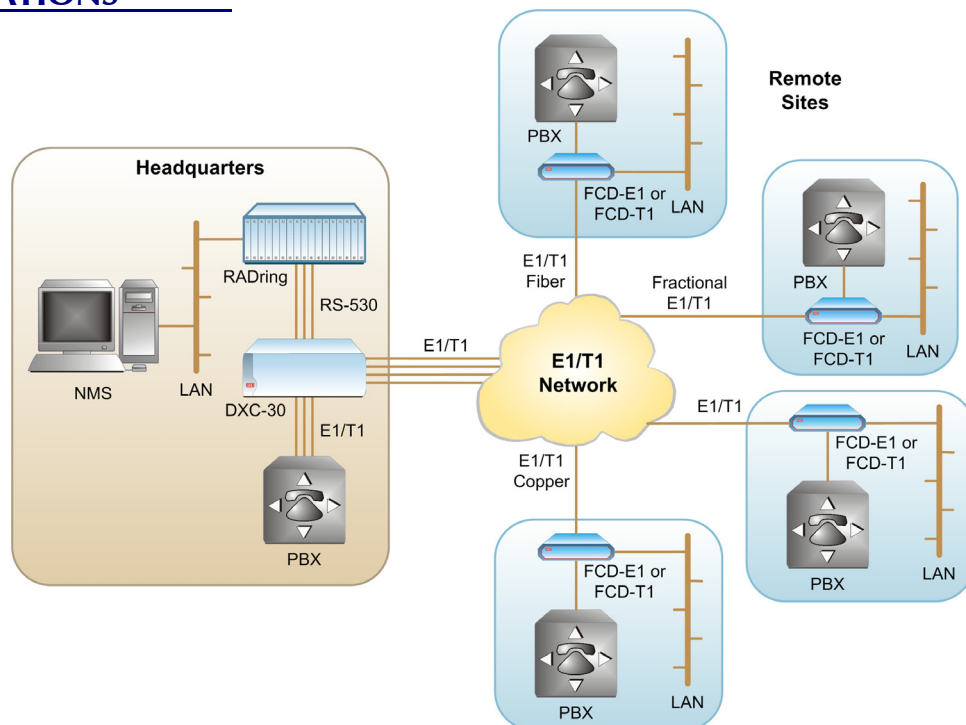

Figure 1. Extended Ethernet Management over E1/T1 Network
- FCD-E1 and FCD-T1 are access units for E1/T1 or fractional E1/T1 services. They can be used as rate and interface converters or as integrating multiplexers for E1/T1 and fractional E1/T1 services (see Figures 1 and 2).